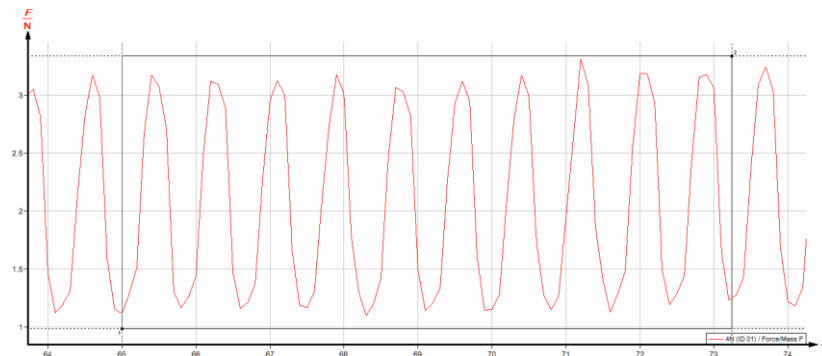

Figure 5.13: Marking 10 cycles using the “survey tool”.
- 7- Press the motor button which was previously pressed in step 4 (button (16) or (17)) to stop the motor without touching the rpm rotary switch.
- 8- Use the “Survey tool” () to mark a number of cycles on the graph, count the cycles lying between the two vertical markings on the graph as shown in Figure 5.13.